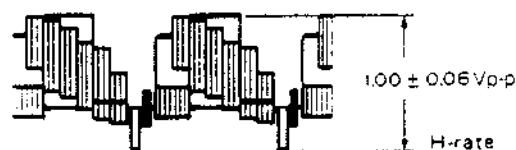

Fig. 2-5-6
- 4) If necessary, replace R17 with the variable resistor 4822 101 10891 and adjust it for 1.00 +/- 0.06 Vp-p, as in Fig 2-5-6.